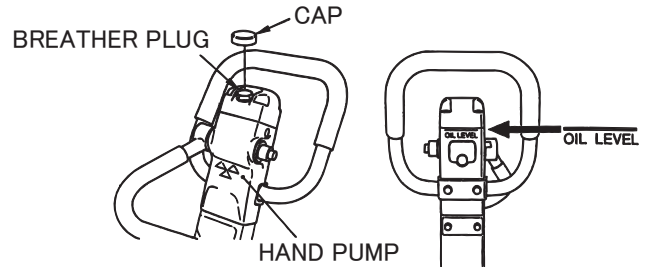

Figure 14. Hydraulic Oil Check
3. Remove the breather plug at the top of the hydraulic hand pump to see if the hydraulic oil is at the specified level. See Figure 14.